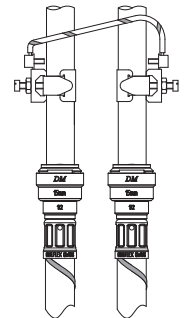

Fig. 9
- 4.15 **Adjacent pipes:** Adjacent suction and delivery pipes should be fitted with earthing clamps to BS 951 and connected with earthing wire size 4 mm2 (Fig. 9).